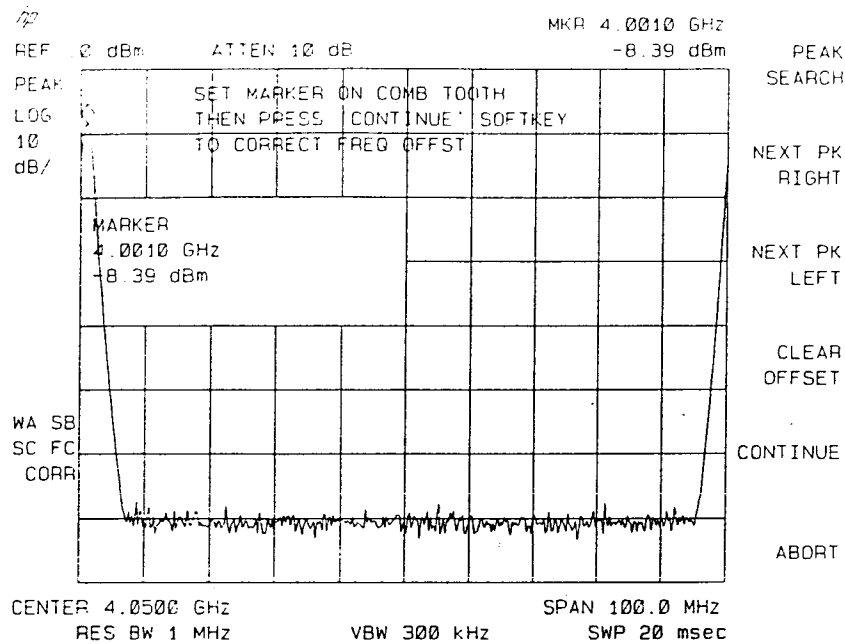

Figure 2-33. Using the Correct to Comb Function
3. Press **AUX CTRL**, **COMB GEN ON OFF (ON)**, then **CORRECT TO COMB**. The marker is activated and the menu for the correct to comb routine is displayed. The message **SET MARKER ON COMB TOOTH THEN PRESS CONTINUE SOFTKEY TO CORRECT FREQ OFFST** is displayed. See Figure 2-33.